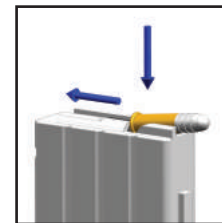

figure 3
1. Put the cartridge on the feeder, near the magazine feed lips (figure 3).
2. Push the bullet down and to the backsides of the magazine (figure 3).